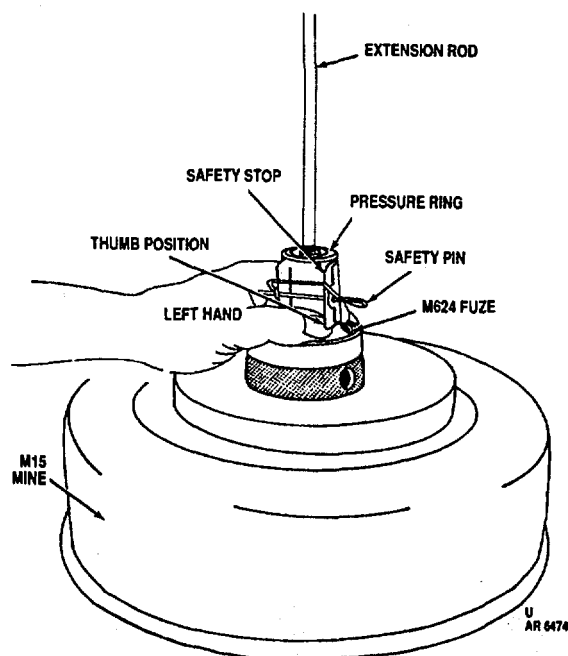
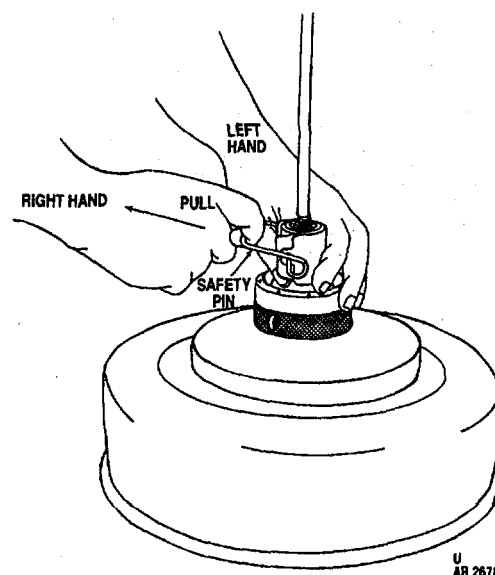
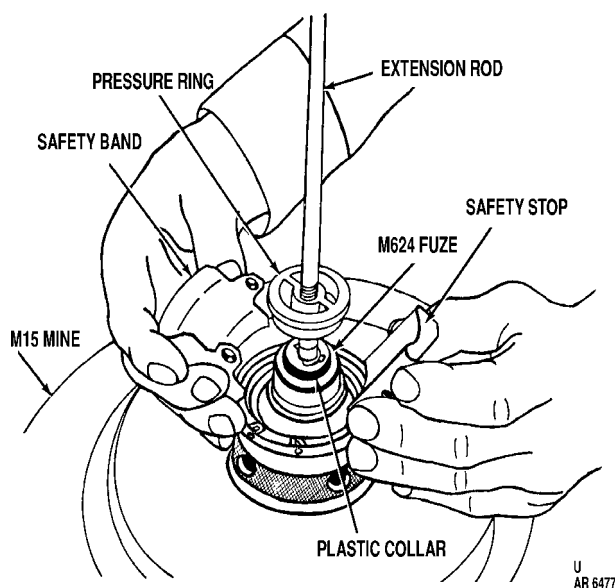

Figure 2-41. Left hand grasping fuze (arming fuze).
Figure 2-42. Pull with right hand (arming fuze).
Figure 2-44. Remove safety band and stop (fuze is armed).
- (19) To arm fuze, lie in prone position, raise safety pin to horizontal position, and grasp safety bank and safety stop with left hand (fig. 2-41) (note position of thumb). With right hand index finger, pull safety pin out while sliding it to the right (figs. 2-42 and 2-43). Carefully remove safety stop while holding safety band in place. If any cracks are noted in plastic collar, while still in prone position, slowly and carefully reassemble stop and safety pin on fuze so that pressure ring is immobilized. Remove extension rod carefully. Remove fuze from mine, using extension rod if necessary. Turn fuze in to ASP for disposal and replace it with a new fuze. If no cracks are noted, carefully remove the safety band (fig. 2-44). THE FUZE IS NOW ARMED!